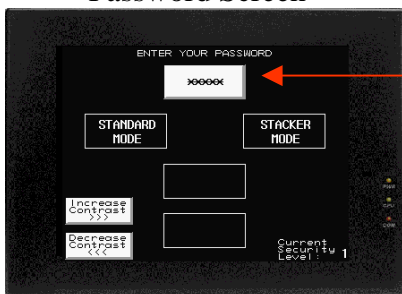

Fig 3
- 2 Press "*****" (Password Window) (fig 3)